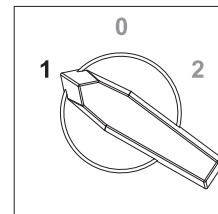

Figure 3-38. Flex Switch—Position 1
- See **Figure 3-38**. Switch the flex switch (if equipped) to position 1.